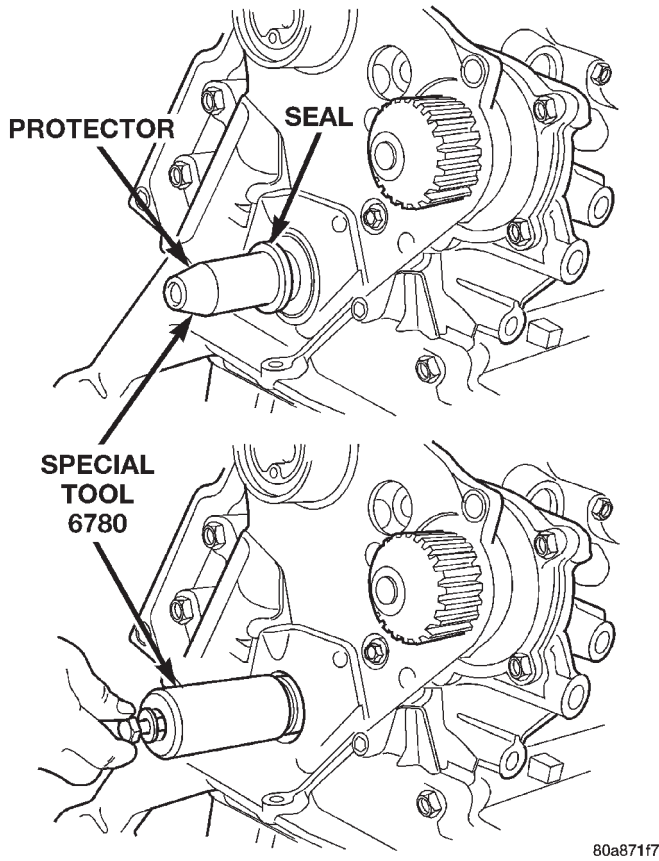

Fig. 88 Front Crankshaft Seal—Installation
- (5) Install new front crankshaft seal using Special Tool 6780 (Fig. 88).